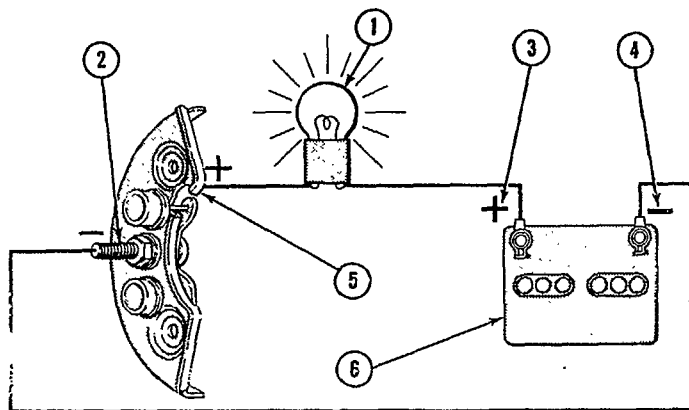
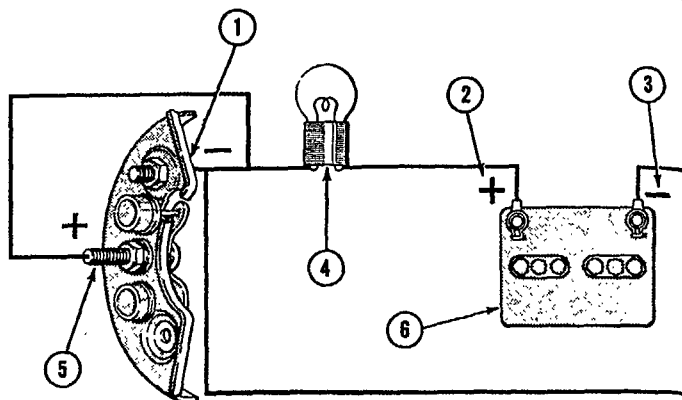

Figure 39
Figure 40
2. Connect one test lead to the output terminal stud of the diode and the other to the exposed metal area on the auxiliary terminal of the heat sink. See Figure 39.
3. Repeat the test with the leads reversed as shown in Figure 40.
NOTE: The lamp should light when the leads are connected as shown in Figure 39. If the lamp fails to light, the diode is open and it must be replaced. The lamp should not light when the leads are reversed, as in Figure 40. If the lamp does light, the diode is shorted and it must be replaced. Replace a defective isolation diode as a complete assembly. Do not immerse the isolation diode in a severe cleaning chemical as it may remove the special corrosion resistant paint.